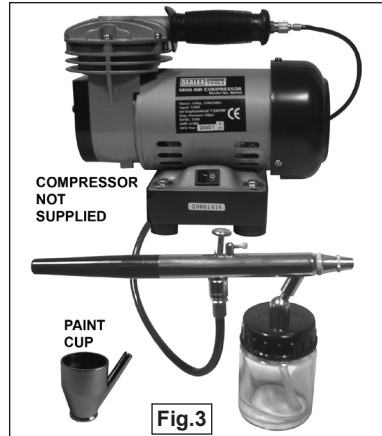

Fig.3
- 3.4 To use a compressor such as the Sealey Model No: AB900 use the adaptor supplied with the compressor to connect the air hose, as shown in fig.3.